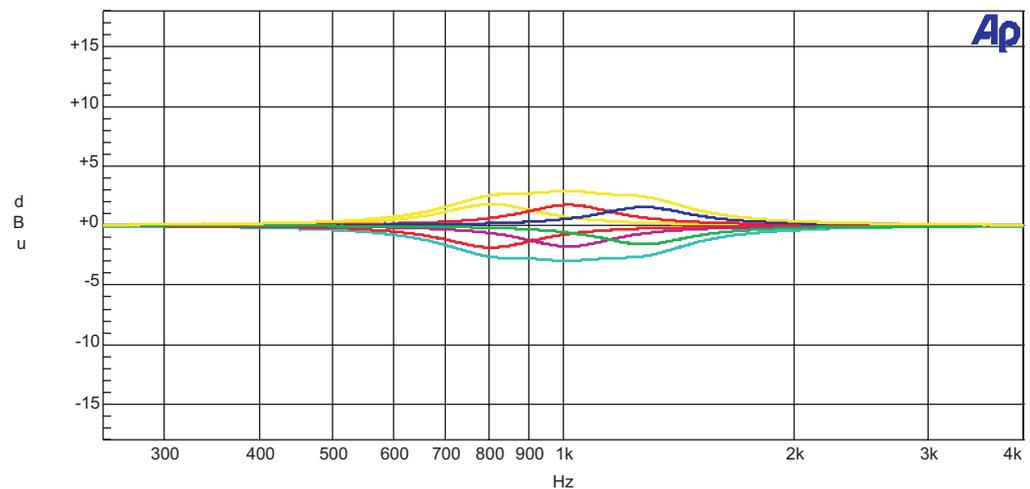
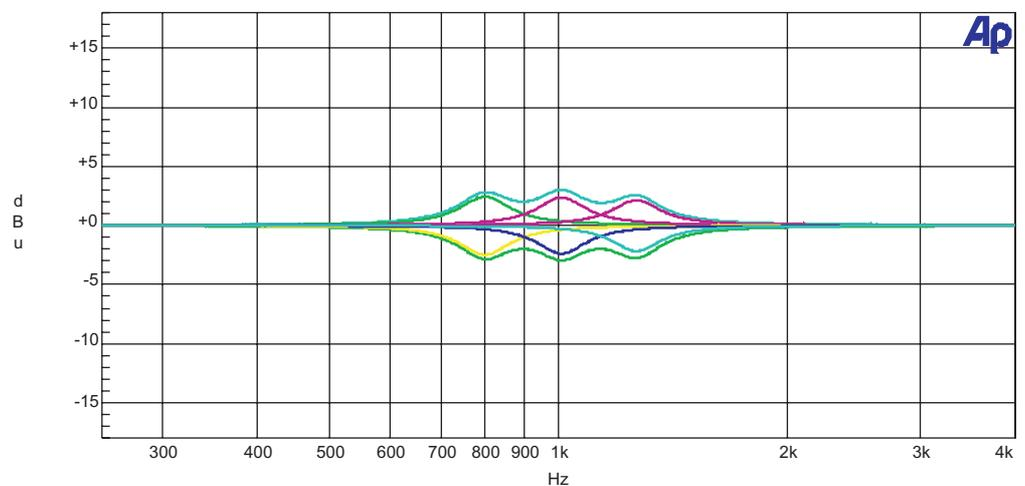

Figure 1 Symmetrical-Q equaliser "wide" mode  $\pm 2$ dB boost and cut
Figure 2 Symmetrical-Q equaliser "narrow" mode  $\pm 2$ dB boost and cut
**Figure 1** and **Figure 2** show the responses of a leading Symmetrical-Q equaliser in both its 'wide' and 'narrow' modes of operation for 2dB of boost and cut, which is typical of the small adjustments made in corrective EQ applications. The 'wide' response gives a very smooth combined response for the three bands shown, however the 'narrow' response shows significant ripple in the combined response which will lead to audible artefacts such as phase distortion.